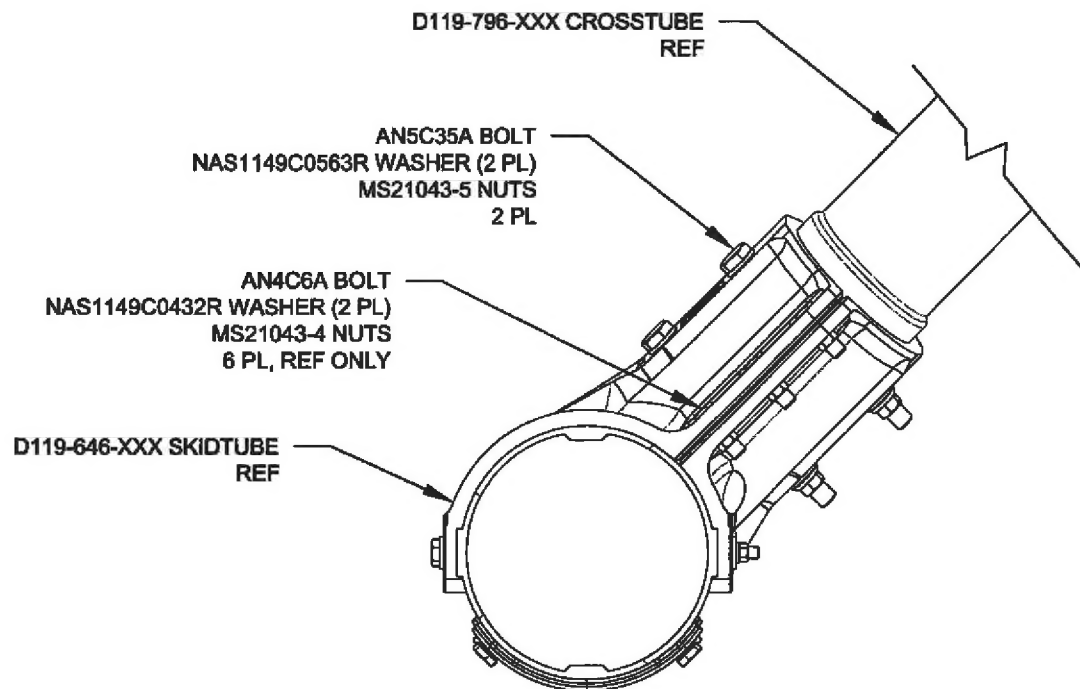

Figure 3.1 - Installation of D119-796-XXX Crosstubes to Dart D119-646-XXX Skidtubes
- 3.1.1 For installation on Dart D119-646-XXX and OEM Skidtubes, loosely install (qty 2) AN5C35A Bolts, (qty 4) NAS1149C0563R Washers and (qty 2) MS21043-5 Nuts per saddle as shown in Figure 3.1.